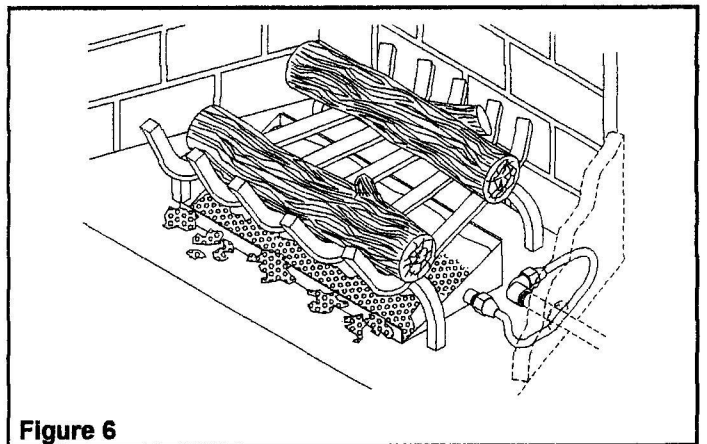

Figure 6
9. Position grate so that the center of the grate is directly over the back edge of the burner pan. Position the smaller base log to the rear and the longer base log to the front of the grate allowing maximum space between them (Figure 6). Top logs can be arranged in any order as long as they are as far apart from each other as possible to achieve minimal flame interference.